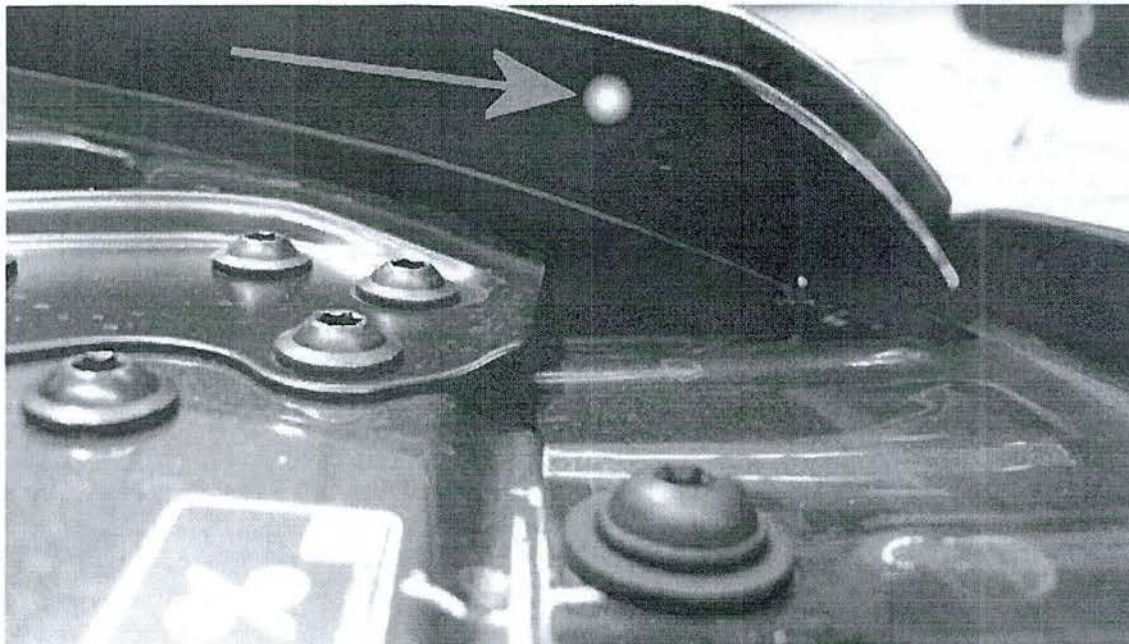

Figure 17
If the vehicle is not already listed as repaired in the "Repair history" (in Elsa Pro), check the vehicle for the Campaign identification mark, which is a White paint mark next to the right hand radiator shell fixing as shown in Figure 17, should neither be evident please carry out the required work in accordance with these instructions.
7. Place a White paint confirmation mark on the right hand radiator shell fixing as shown in Figure 17
White paint completion mark on the right hand radiator shell fixing (see Figure 17)